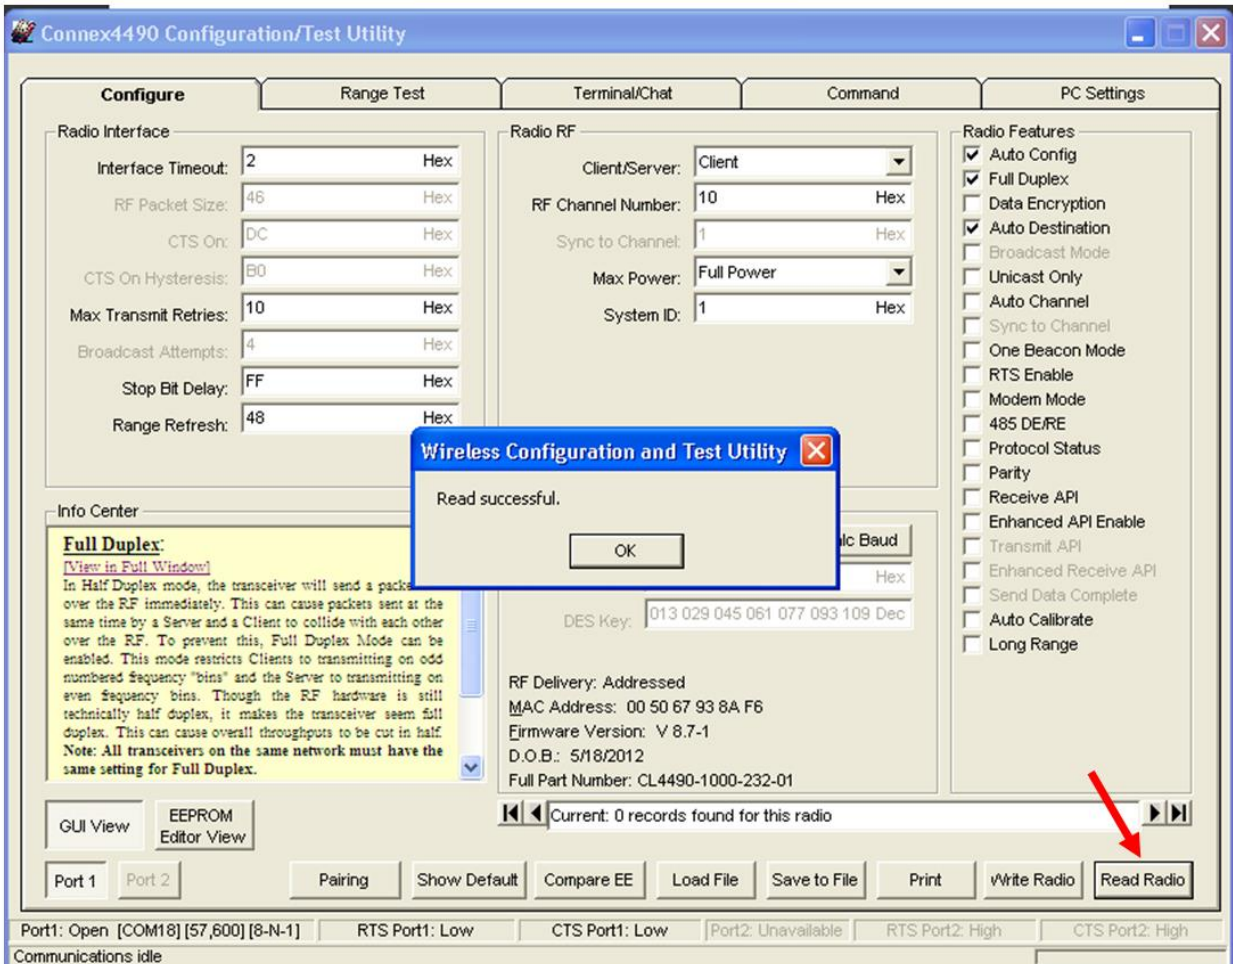

Figure 10: Configure tab - Read Successful
- Go to the Configure tab and click the **Read Radio** button at the bottom right of the screen. A message stating “Read Successful” should appear after a successful read (Figure 10).